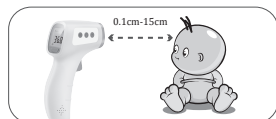

Figure 2: Measuring position and distance
- The thermometer is aligned with the middle of the forehead to measure body temperature (between the eyebrows above) and keep the vertical distance, press the On/Scan button, temperature display immediately, see figure 2.
Incorrect test position.	See figure 2 Measuring position and distance.